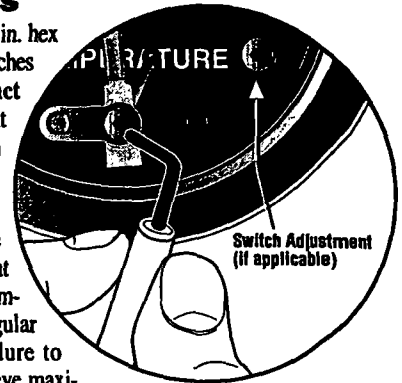

Figure 3
1. All contacts are set using a 1/16 in. hex wrench (Figure 3).
Reset the contact (Figure 3).